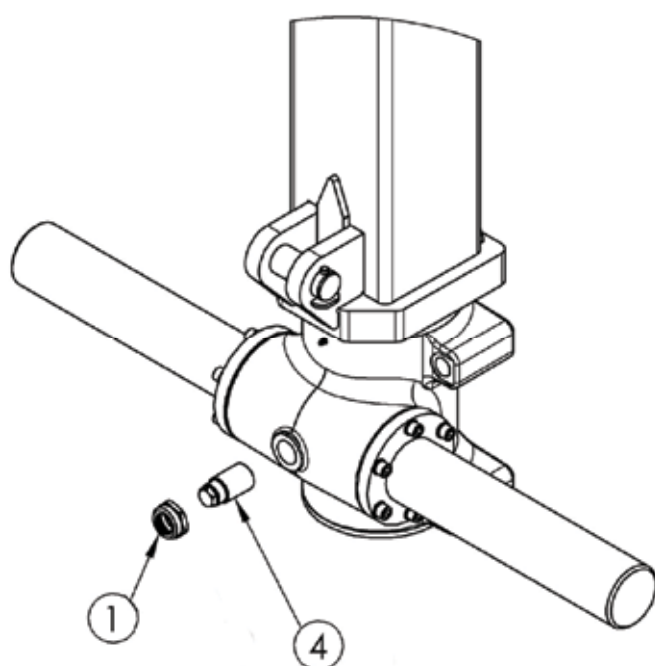

Figure 11. Adjusting gear rack
- Release the lock nut (pos. 1 fig. 11)
- Screw the bolt (pos. 4, fig. 11) up to contact with the rack and tighten 15 – 30 degrees
- Screw up lock nut (pos. 1 fig. 11)
- Release the lock nut (pos. 1, fig.11)
- Remove the bolt (pos. 4, fig. 11)
- Screw up the lock nut (pos. 1, fig.11).